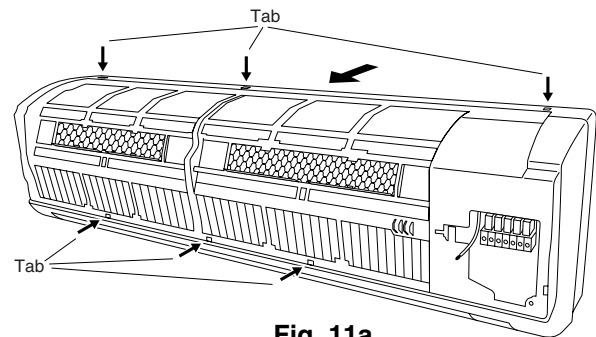

Fig. 11a
- (5) Press the 3 tabs at the top of the grille and the 3 tabs on the front face to separate the grille from the frame. (Fig. 11a)